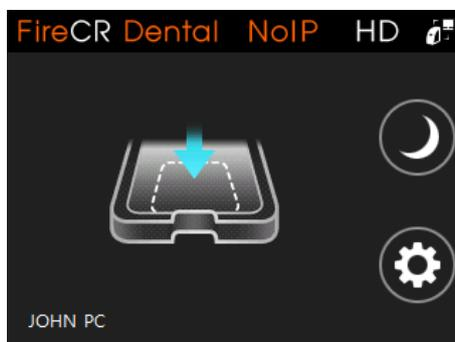

Figure 6.18 Connected
- Scanner indicator will set to green. Now you own the scanner and ready to scan. The Scanner LCD window is changed as shown in Figure 6.18, and the name of the connected PC is displayed in the lower left section.